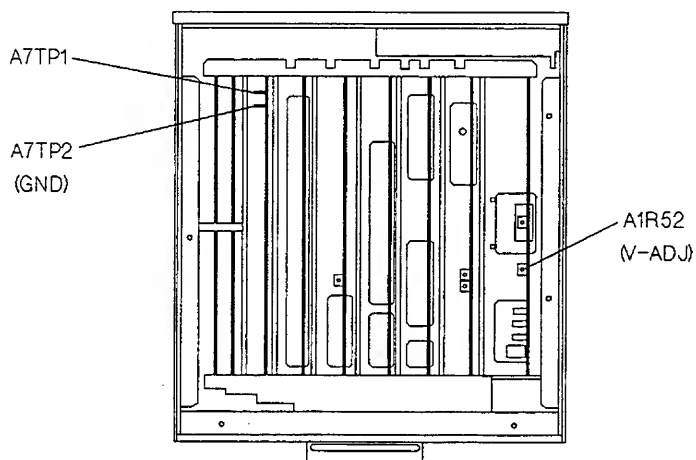

Figure 2-7. Power Supply Voltage Adjustment Location
3. Connect multimeter's Lo input to A7TP2 (**GND**), and connect the Hi input to A7TP1. Figure 2-7 shows the location of A7TP1 and A7TP2.
4. Turn A1R52 (**V-ADJ**) fully **CCW** (Counter Clock-Wise). Figure 2-7 shows A1R52's location.